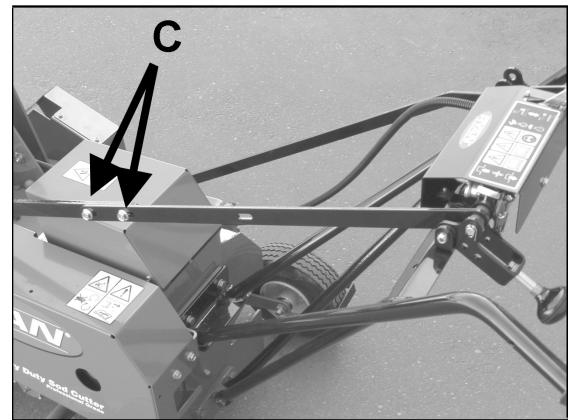

FIGURE 2
6. Rotate the master clutch control to the rear "Disengaged" position. Connect the clutch control links together and secure using two 5/16-18x1" serrated flange screws and two serrated flange nuts **C**. (Figure 2)